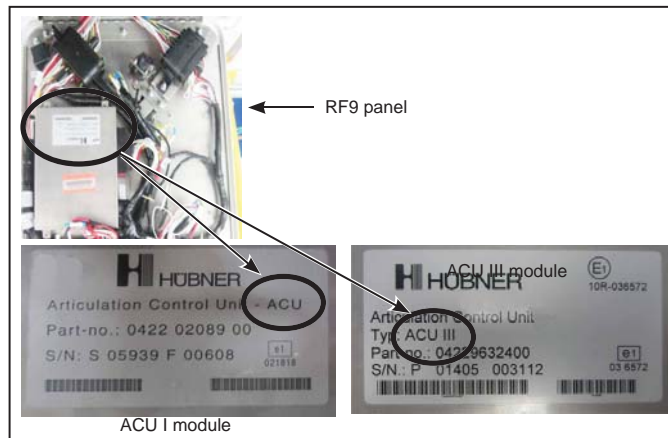

Figure 1 - Location and Identification of the Hübner Articulation Control Unit (ACU) in the RF9 Panel
- 1.2. Locate and identify the Hübner Articulation Control Unit (ACU). See Figure 1.